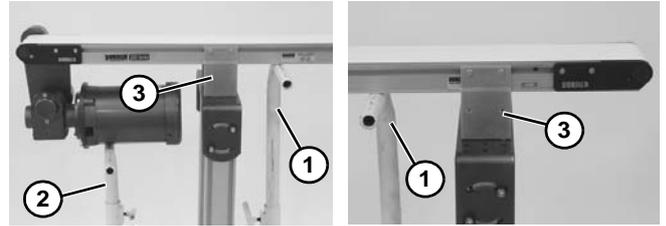

Figure 28
1. Place temporary support stands (Figure 28, item 1) at both ends of the conveyor. Place an additional support stand (Figure 28, item 2) under the drive motor, if equipped. See WARNING.
2. Remove mounting brackets (Figure 28, item 3) from one side of conveyor. (Reverse steps 3 & 4 of “Mounting Brackets” section beginning on page 12.)